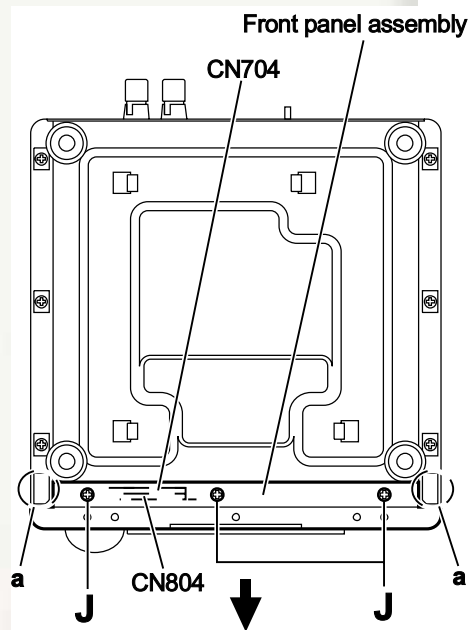

Fig.8
3.1.3 Removing the front panel assembly (See Fig.8)
- (1) Removing the three screws **J** attaching the front panel assembly. (See Fig.8.)
- (2) Release the claws **a** attaching the front panel assembly and remove the front panel assembly in the direction of the arrow. (See Fig.8.)